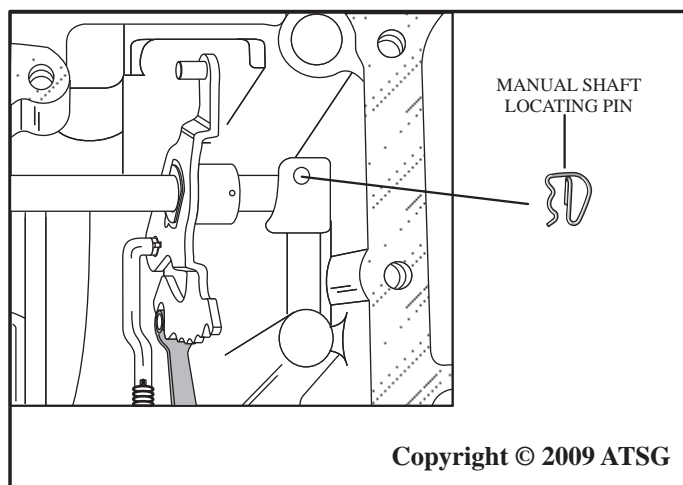

Figure 22
20. Remove the manual shaft locating pin using a pair of pliers as shown in Figure 22.